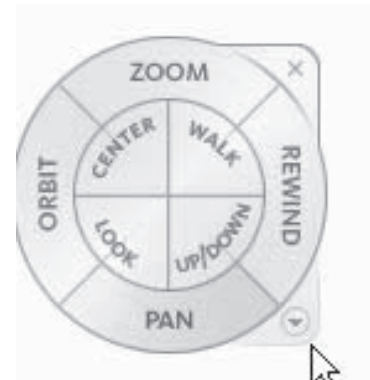

Fig. 39-6
This enters the **NAVSWHEEL** command and attaches a large, multi-button icon to the pointer called the **Full Navigation Wheel**, as shown in Fig. 39-6.
2. If the wheel on your screen does not match Fig. 39-6, right-click and select **Full Navigation Wheel** from the shortcut menu.